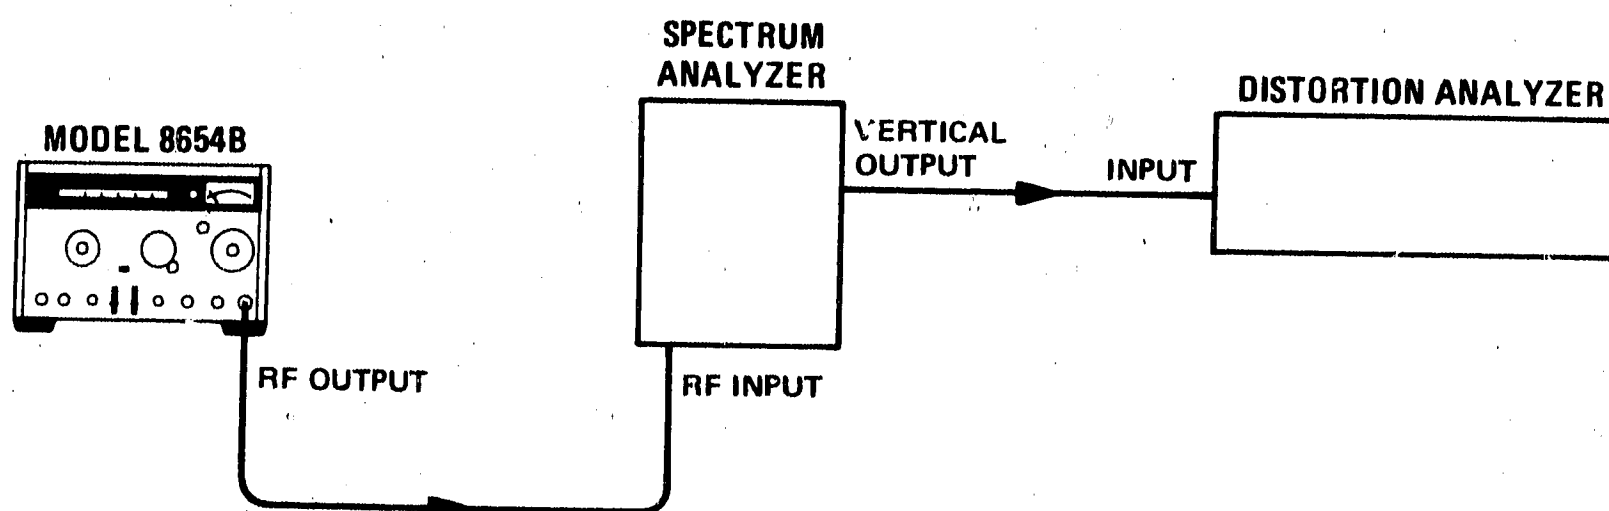

Figure 4-7. AM Distortion Test Setup
1. Connect equipment as shown in Figure 4-7 after setting Signal Generator controls as follows: